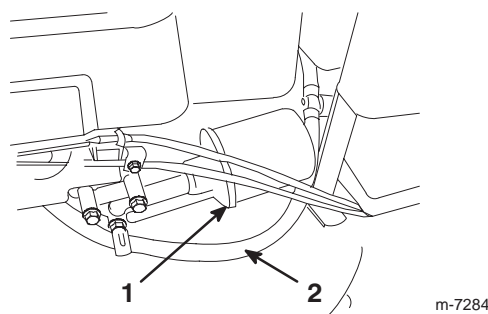

Figure 36
- Disconnect the fuel line (Fig. 36) by loosening the tube clamp at the carburetor.
Replace the oil filter (Fig. 36) after every 100 operating hours or yearly, whichever comes first.